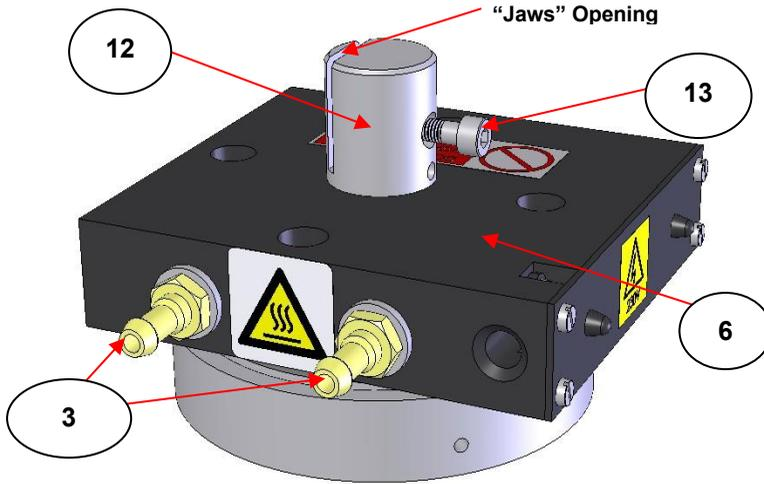

Fig 6. Top Heated Platen Assembly of Atlas™ Heated Platens
Take the top heated platen assembly (1) and pass it with its water tubing and power cable connections through the rear of the press, ensuring that the water connection ports (3) are projecting outwards and pointing towards the rear of the pressing area. (See Fig 6.)